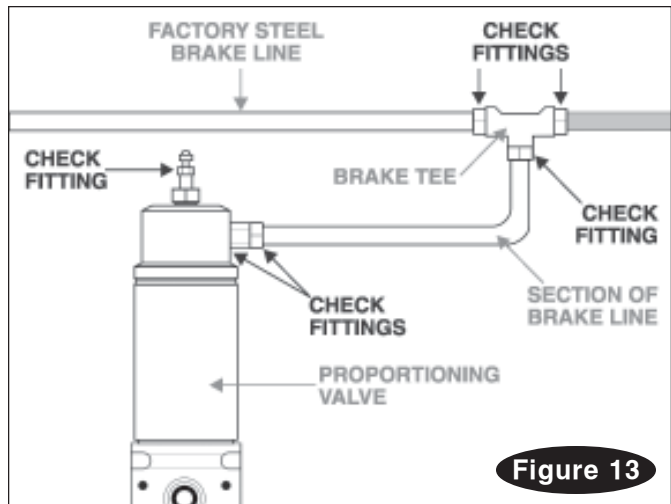

Figure 13
14. Inspect the bleeder screws and other fittings for leaks. Correct, if necessary. Inspect the proportioning valve and the brake line fittings at the six points indicated in Figure 13 and correct, if necessary.
Cover each joint, fitting and connection in the air system (including the proportioning valve – Figure 13) with a leak check solution.